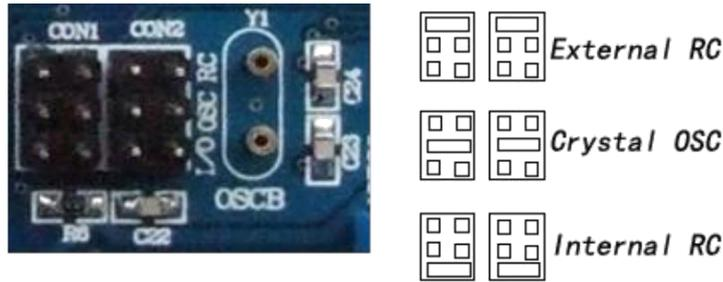

Figure 6: DIP20 clock selection
3. DIP20 clock selection. As shown in Figure 6